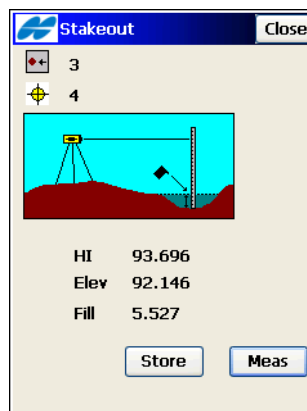

Figure 9-54. DL Stakeout
4. On the level *Stakeout* screen, tap the **Meas** button to measure the elevation and compute a cut/fill value. Tap **Store** to set a code for the point, the name, and a photo note; set the layer name and plotting parameters, to view the point information and save the staked point (Figure 9-54).